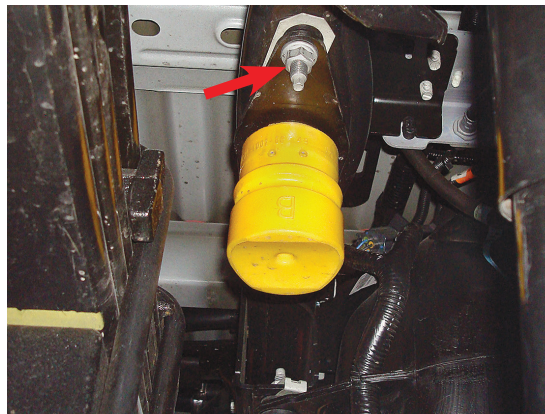

fig. D.2
2. Unbolt and remove the jounce bumper assembly from under the frame on both sides (Fig. D.2).